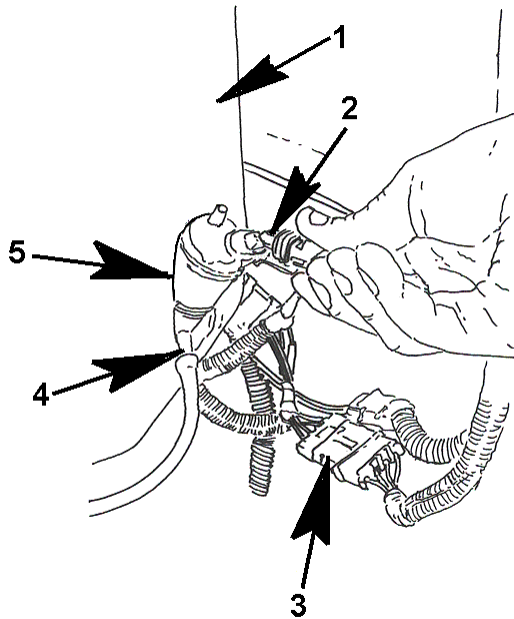
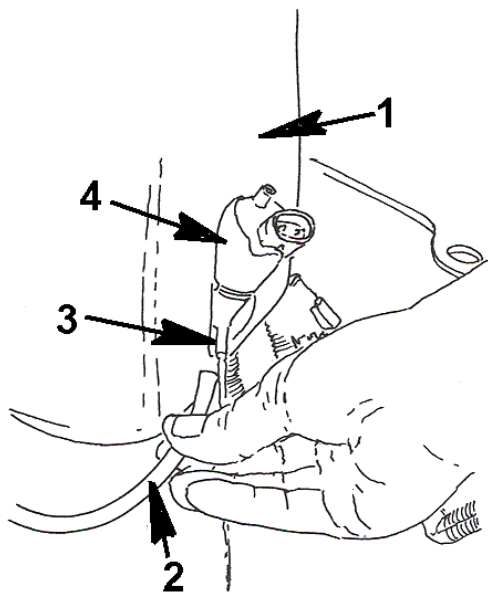

Figure 60 Pump Connection Disconnect
Figure 61 Supply Hose To Wiper Disconnect
3. With reservoir pump connection harness unplugged (Figure 60, Item 2), locate and disconnect windshield wiper washer supply hose from pump nipple (Figure 61, Item 3).